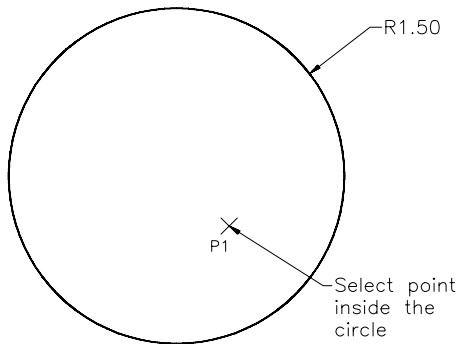

Figure 15-4 Specifying a point to hatch the circle
3. Select a point inside the circle (P1) (Figure 15-4) and press ENTER; the **Hatch and Gradient** dialog box is displayed again. You can now preview the hatching by choosing the **Preview** button. Alternatively, after specifying an internal point, right-click to display a shortcut menu and choose the **Preview** option.